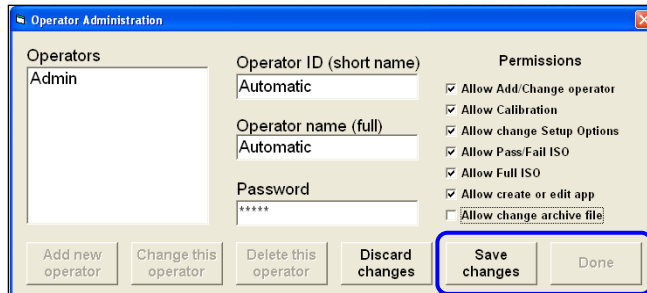

Figure 36: Click "Done" and then "Save changes"
52. Enter "Automatic" in both the "Operator ID (short name)" field and "Operator name (full)" field (Figure 36).